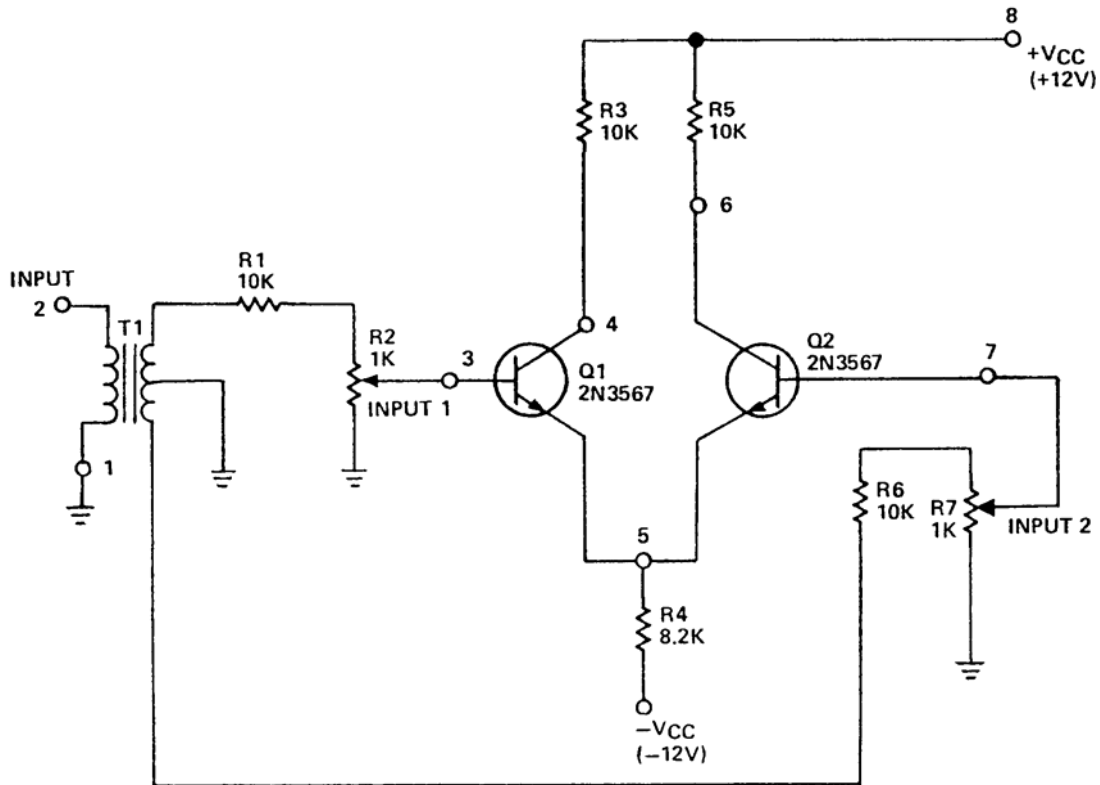

Figure G-1. Differential Amplifier
The differential amplifier has different modes of operation and so the symptoms caused by malfunctions may not always be the same. Study the schematic diagram (Figure G-1) to determine which mode of operation is being used and then consider the trouble symptoms with respect to that mode of operation.
a. In Figure G-1, T1 with its associated circuitry supplies signals to the bases of Q1 and Q2. These two signals are 180 degrees out of phase. If a signal does not appear at the base of Q1 or Q2, check T1 and its associated circuitry.